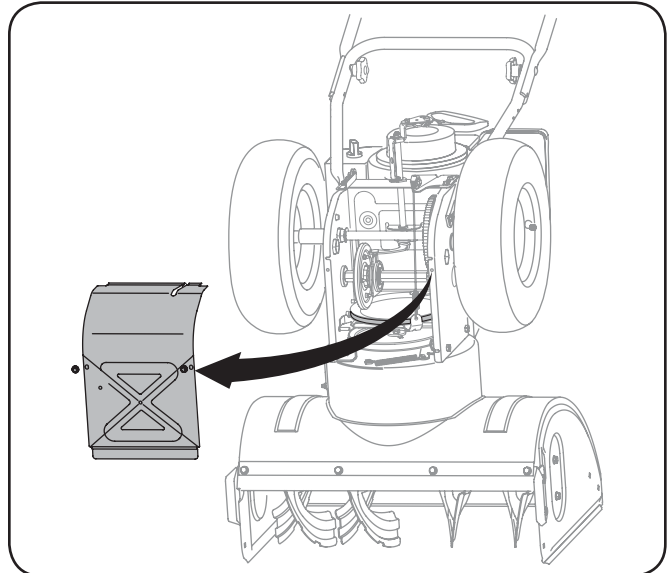

Figure 8-3
5. Remove the frame cover from the underside of the snow thrower by removing four self-tapping screws which secure it. See Fig 8-3.
- Remove the frame cover from the underside of the snow thrower by removing four self-tapping screws which secure it. Refer to Fig. 8-3.